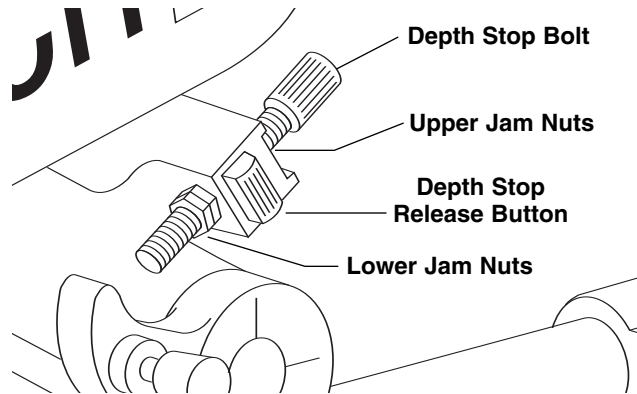

Figure 1. Cutting Grooves
1. For major adjustments, press the depth stop release button and slide the depth stop bolt to the desired location (Figure 1).